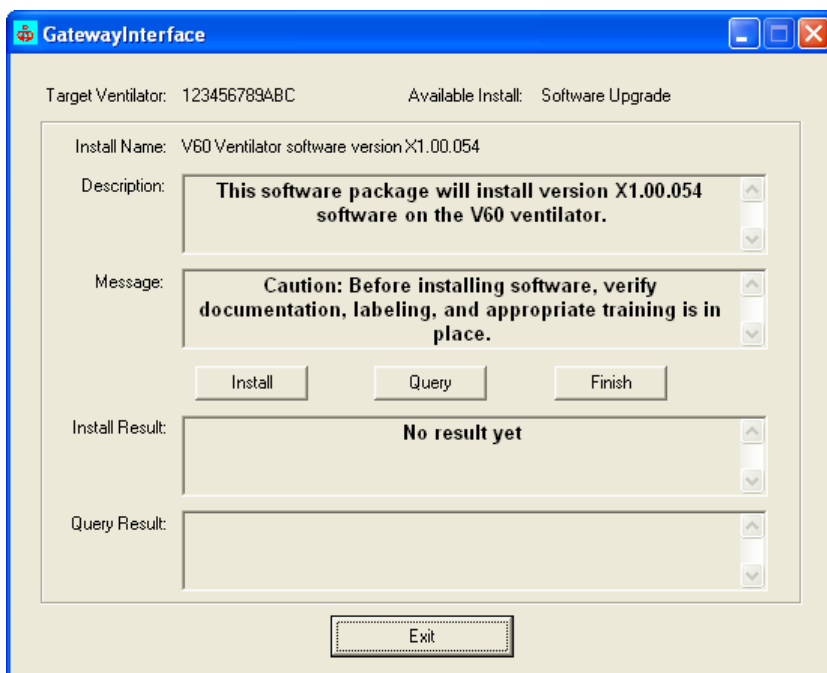

Figure A-8: Installation Confirmation Screen
15. When the V60 installation program screen closes, click **Finish** on the GatewayInterface screen to send confirmation to Respi-Link that the software installation was successful (Figure A-8).
19. Touch **Service** and verify that the Software Version is the same as the version listed on the GatewayInterface screen (Figure A-8).